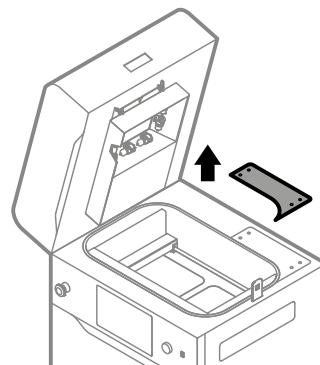

Fig. 12.72 Remove the access panel.
9. Remove the access panel on the top side of the printer (fig. 12.72).